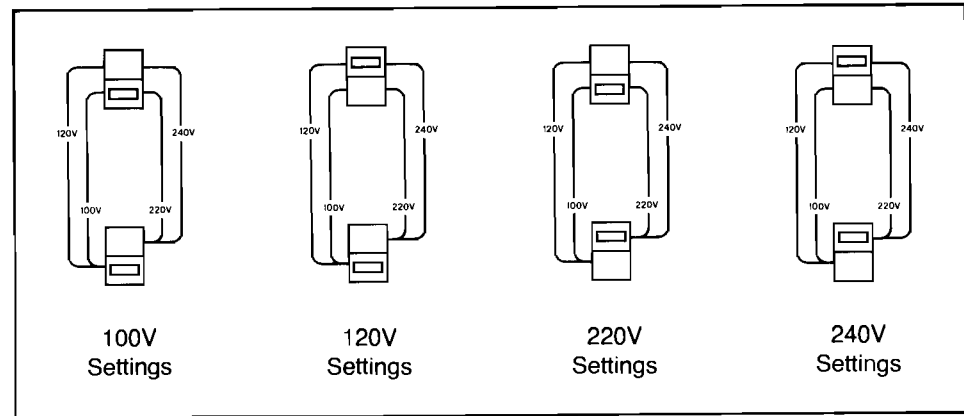

Figure 2-1. Line Voltage Switch Settings
1. Observe the matrix on the printer's rear panel. The numbers on the four curved lines are the voltages that will result from setting the switches to the positions indicated (see Figure 2-1 for additional information).